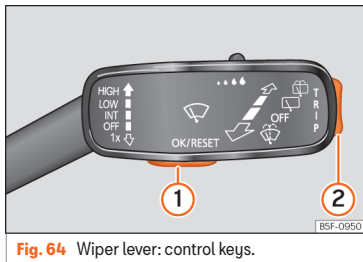

Fig. 64 Wiper lever: control keys.
As long as a priority 1 »» page 72 warning is active, it will not be possible to access any menu. Some warnings can be confirmed and hidden with the button »» Fig. 64 ①.